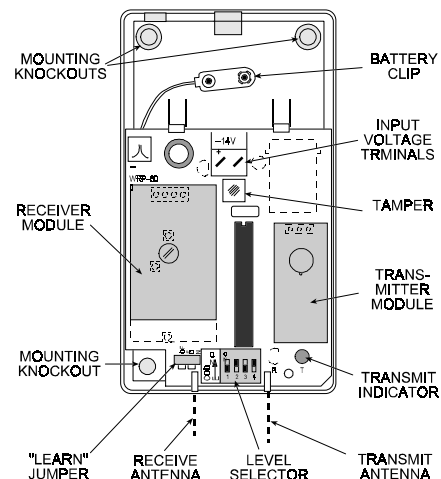

Figure 5. WRP-600, Cover Removed
- B. Mount the base (equipped with the printed circuit board) in the selected location, using the mounting knockouts (see Fig. 5).
- B. Mount the repeater's jumper (identified as the "LEARN" jumper in Figure 5) across the two ON pins. Any previously programmed system code will be erased, and the repeater's PowerCode ID will "go to sleep".
- B. Mount the jumper (the "LEARN" jumper in Figure 5) across the two ON pins.